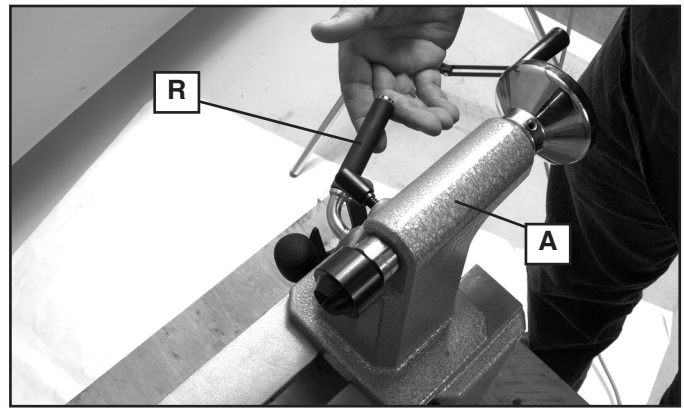
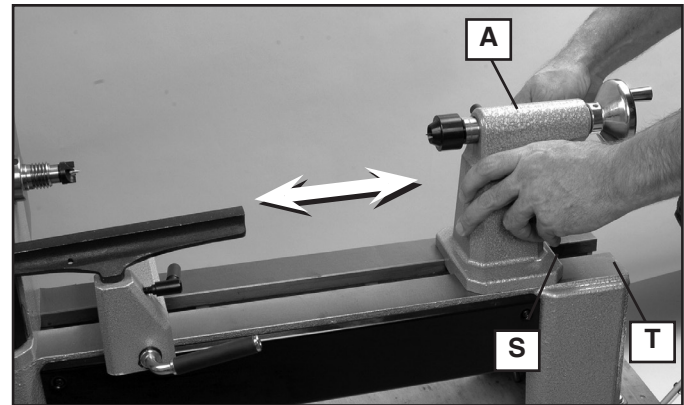

Fig. 10
Fig. 11
To adjust the position of the tailstock (A), loosen tailstock locking lever (R) by lifting. Slide tailstock (A) along the bed (Fig. 11) into the desired location. Tighten tailstock locking lever (R) Fig. 10 by pressing downward to lock in place.
⚠ WARNING: To reduce the risk of injury, don't position edge of tailstock (S) Fig. 11 beyond the edge of the lathe bed (T).
To remove the tailstock (A) Fig. 10, unlock the tailstock locking lever (R) and slide it off the end of the lathe bed.